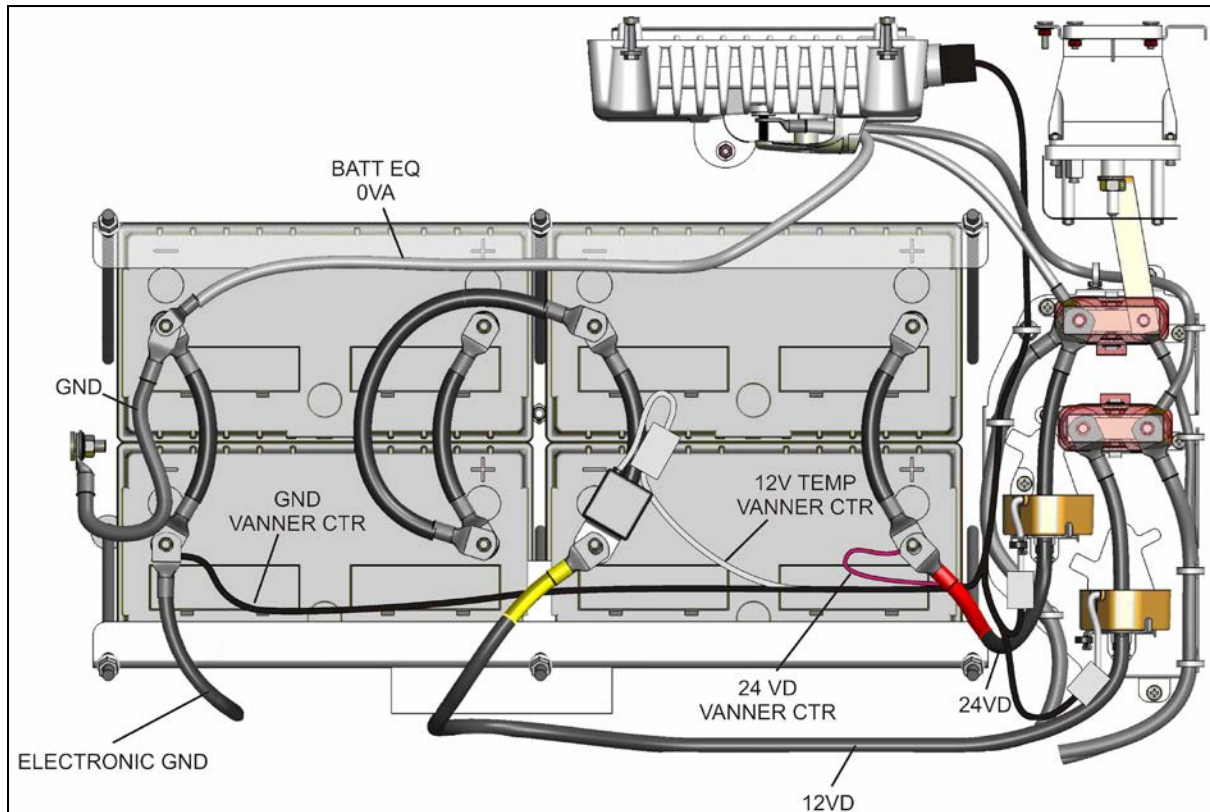

FIGURE 28: X3 SERIES AGM BATTERY CONNECTIONS
If your vehicle is equipped with PRIME energy management system, it is provided with four (4) Absorbed Glass Mat (AGM) 12-volt batteries connected in series-parallel (FIGURE 28).